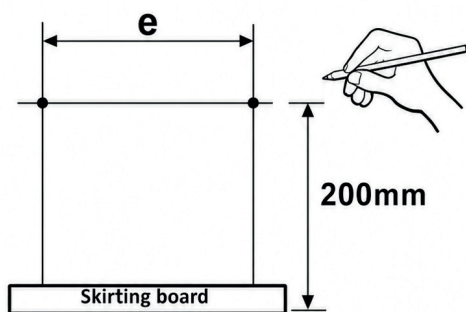

Fig5
1. While respecting the previously indicated safety measurements, make two marks on the wall according Figure 5 and at a height Of 200 mm from the floor (not from the skirting board).